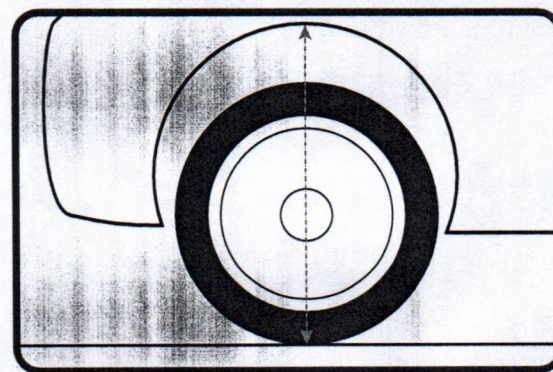

Figure 3
3. Using a spanner wrench (Figure 3), apply preload by threading the adjustment nut up the shock an additional 1/2" from the measurement you took in Step 2. This is your initial preload setting.
3. Lift the vehicle by the frame until the wheel is barely touching the ground. Take another measurement from the fender lip to the ground (Figure 3).